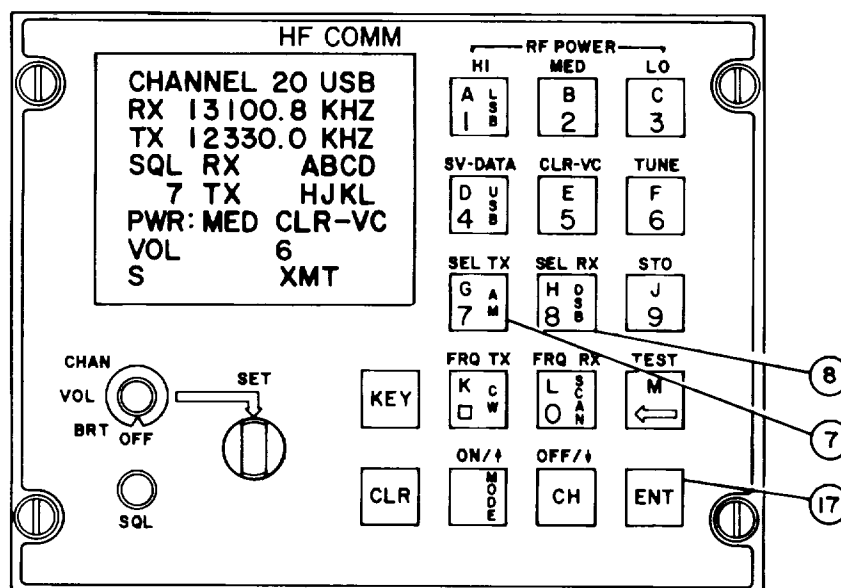
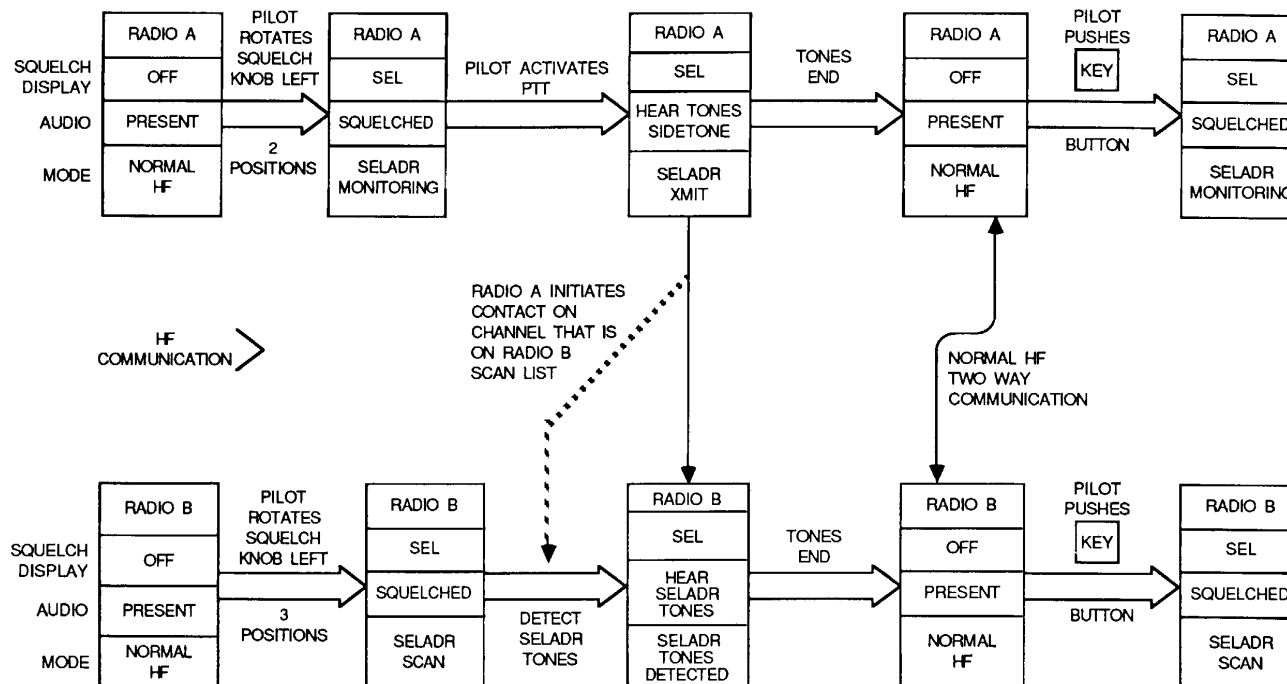

Figure 2-27. C-11245/U Selective Address Function, Controls
Figure 2-28. Selective Address Mode Operation Diagram
- h. Selective Address Mode.** Refer to figure 2-27. Selective addresses for receive and transmit, operating instructions are given in the following information. Selective address mode operation is illustrated in figure 2-28.
- Selective receive address.** Refer to figure 2-27. To enter selective receive address, press SEL RX pushbutton (8), then the four letters of the new address from the alphabet letters A thru M on the pushbuttons, then press the ENT pushbutton (17). When the SEL RX pushbutton is pressed, the receive address field header RX goes to inverse video. New code letters also appear in inverse video when entered. After the address has been entered and ENT pushbutton (17) has been pressed, the display returns to normal, except for CHANNEL in inverse video, indicating unstored SELADR code.
- Selective transmit address.** Refer to figure 2-27. To enter selective transmit address, first press the SEL TX pushbutton (7), then the four letters of the new address from the alphabet letters A thru M on the pushbuttons. Then press the ENT pushbutton (17). When the SEL TX pushbutton is pressed, the transmit address field header TX goes to inverse video. New code letters also appear in inverse video when entered. After the address has been entered and ENT pushbutton (17) has been pressed, the display returns to normal, except for CHANNEL in inverse video, indicating unstored SELADR code.
- (2) **SELADR transmit.** Refer to figure 2-28. To enable the SELADR transmit, press the SEL TX pushbutton (7), and the ENT pushbutton (17). SELADR transmit may also be enabled by first activating SELADR receive or NET mode and then operating the handset push-to-talk (PTT) switch. When SELADR transmit is activated, XMT appears in display field 11 (figure 2-2) and ON appears in display field 7 (figure 2-2). At the same time, the four letter code is automatically transmitted for a predetermined length of time (approximately one second for each channel on the scan list). To transmit the SELADR tones for longer than the predetermined time, press and hold the handset push-to-talk switch while the tones are being transmitted. The tones continue to be transmitted until the microphone key is released. At the end of the tone code transmission, the operator can receive and transmit in normal radio fashion with no squelch. When the contact is complete, pushing the KEY (10) pushbutton will return the radio to the previous SELADR receive or NET monitoring mode. Pressing the CLR key (14) takes the radio set out of the SELADR TX mode.